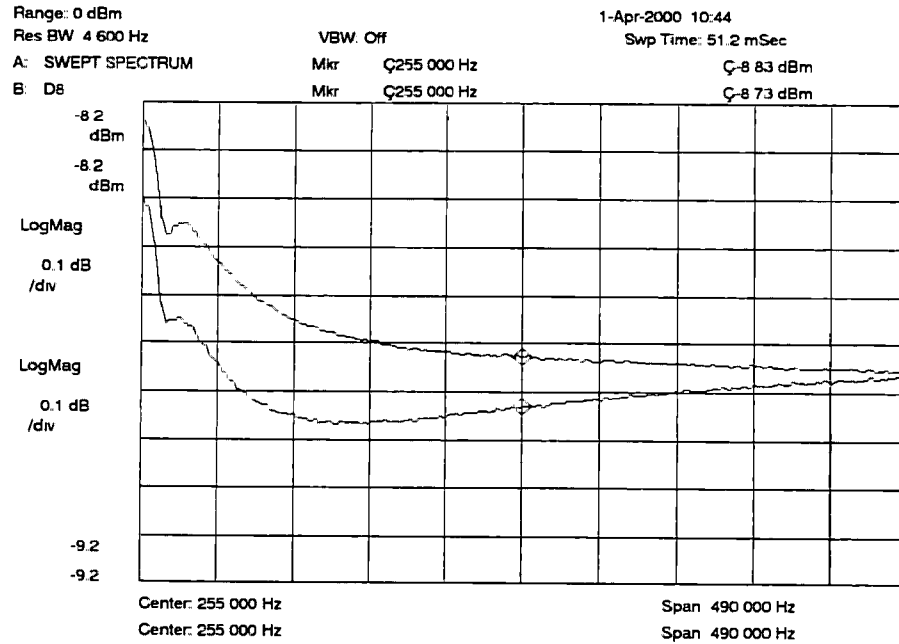

Figure 1-16. 1 Meg Ohm Flatness Adjustment
5. Using the small adjustment tool in the service kit, adjust A11 C413 through a hole in the shield can so the displayed waveforms are as close as possible without the ends crossing (see figure 1-16).